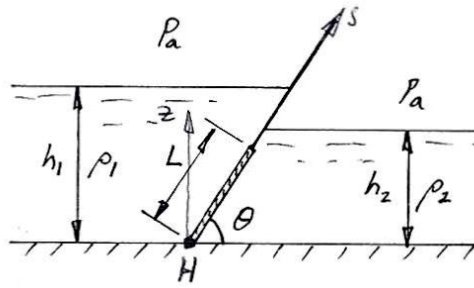

Figure P2.44
2.44 A gate of length L and width w separates two liquids of different density, as shown in Figure P2.44. The gate is held by a frictionless hinge at H . Find the ratio of densities ρ_2/ρ_1 in terms of L , θ , h_1 and h_2 when the gate is about to open. Indicate all your working clearly, and state all your assumptions.